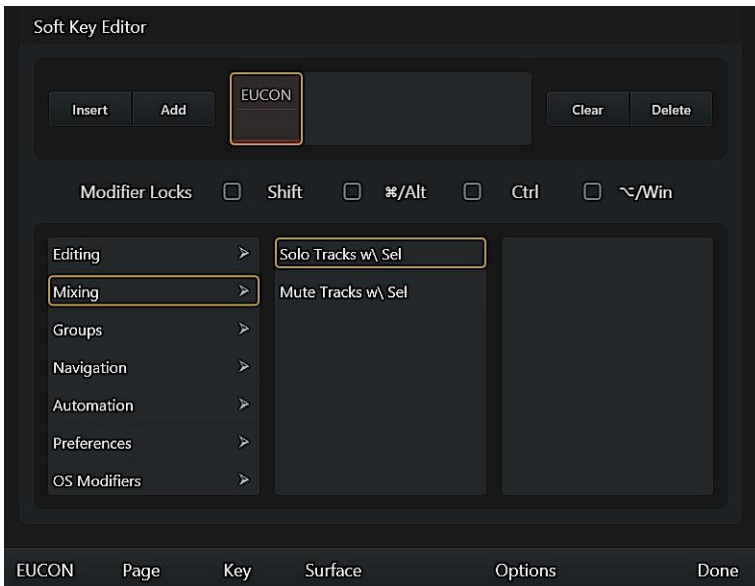

Figure 50. Selecting a EUCON command
- 9 Use the hierarchical EUCON command lists to navigate to and select the desired command. For example, scroll to and then tap Mixing, then scroll to and tap Solo Tracks w/ Sel as shown in Figure 50.